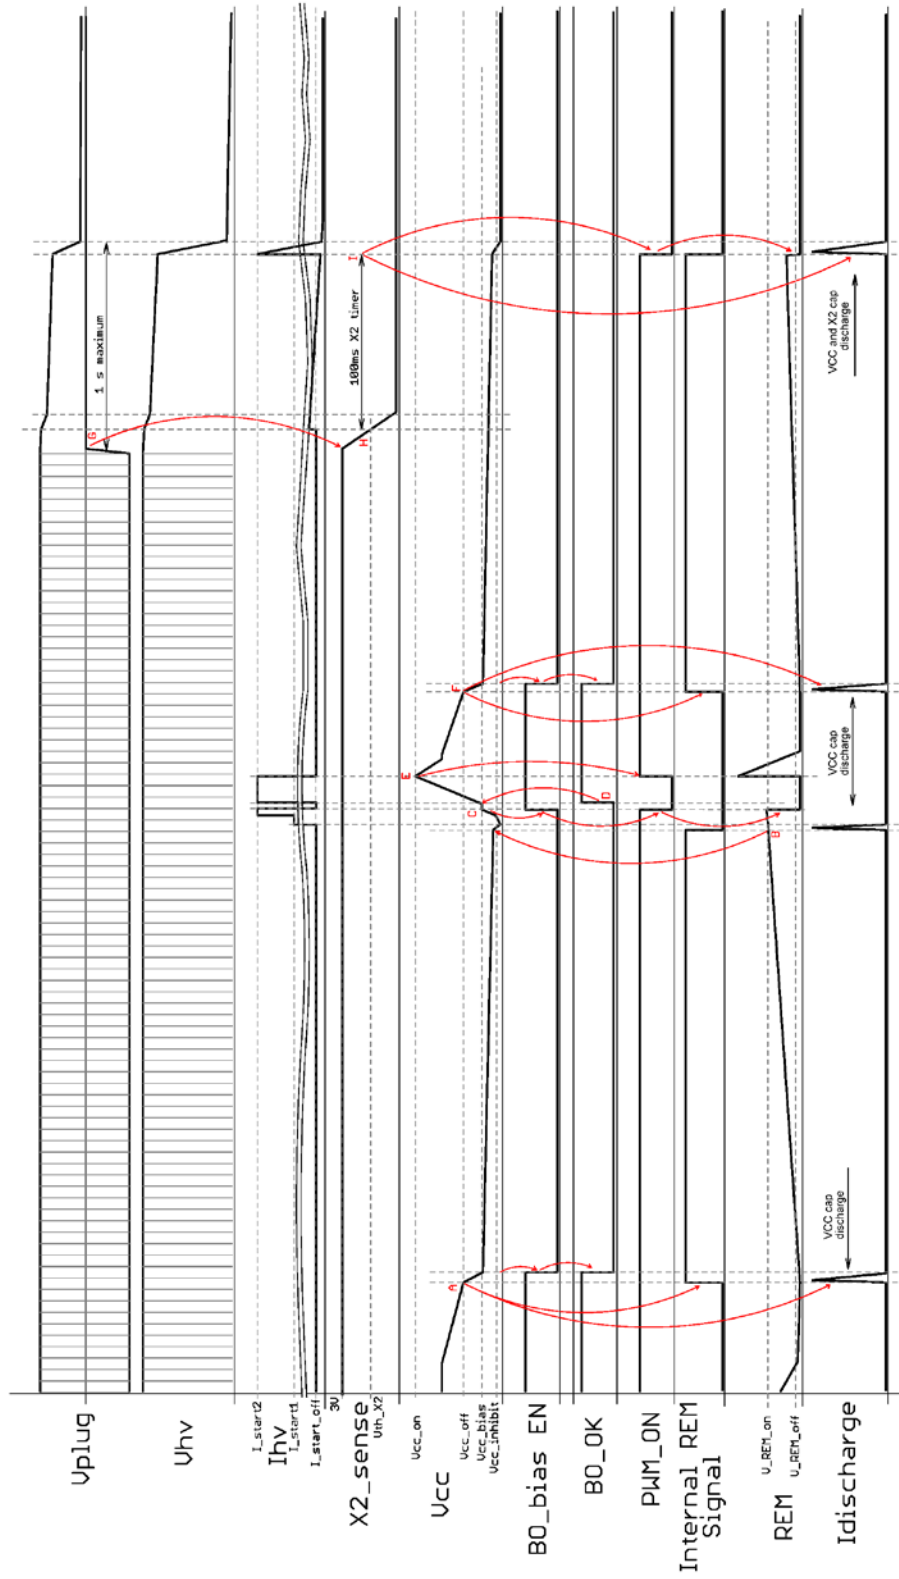

Figure 53. IC Operation Sequencing – Case 3 (Active OFF)
3. *Off-mode operation – restart by primary remote pull-up then AC line off – Figure 53:*